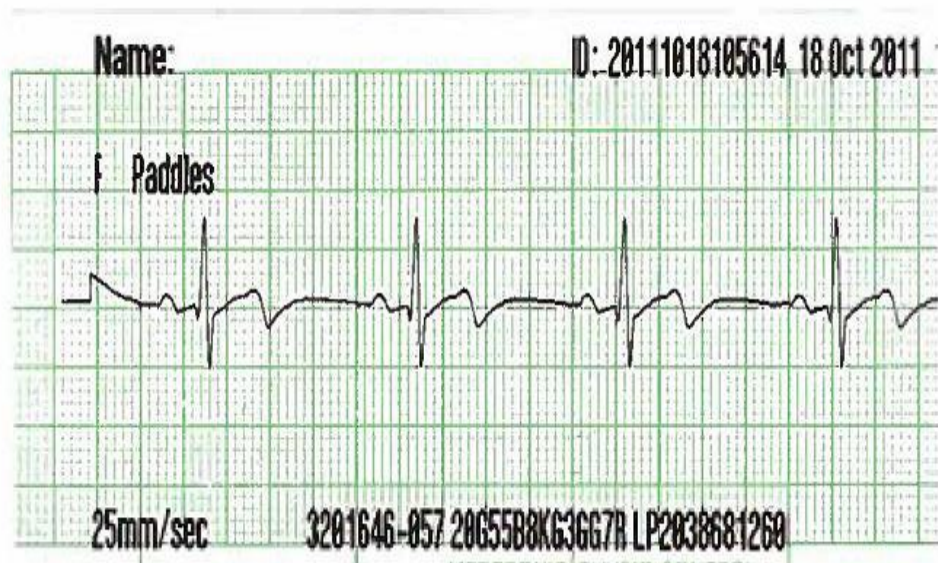

Figure 1.18: A Positive R-Wave
6. Confirm the R-Wave polarity on the paper matches image as shown in Figure 1.18.